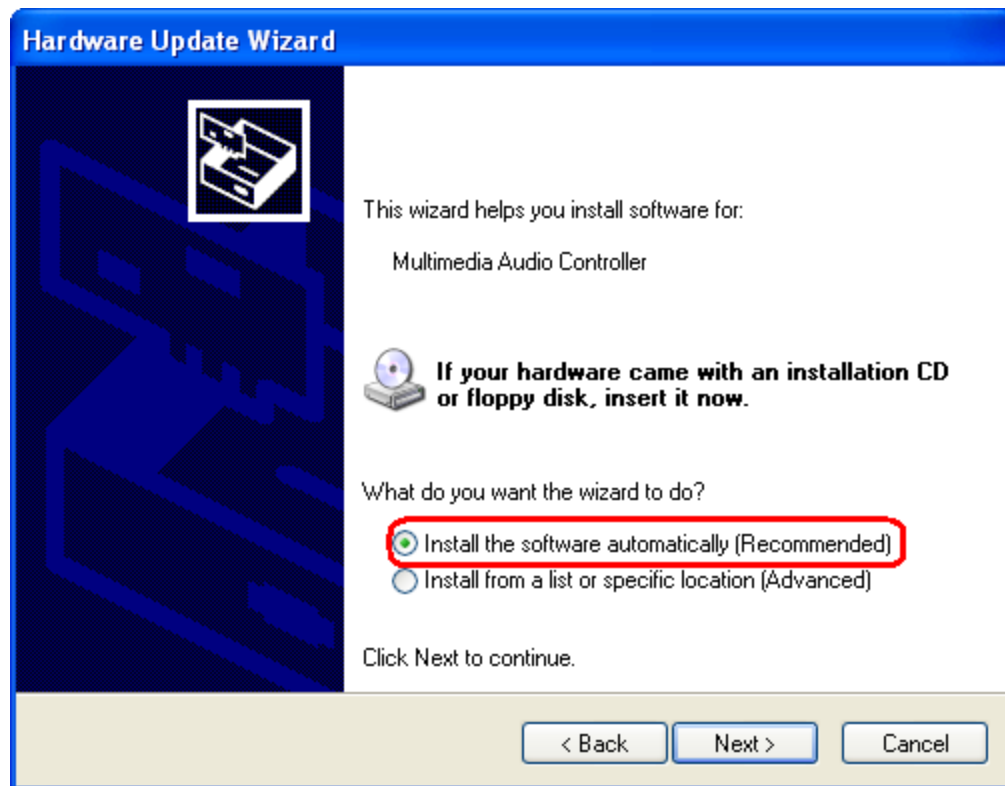

Figure 7-19: Audio Driver Installation Start
Step 8: The screen in **Figure 7-19** appears.
Step 9: Select the recommended option in **Figure 7-19**.